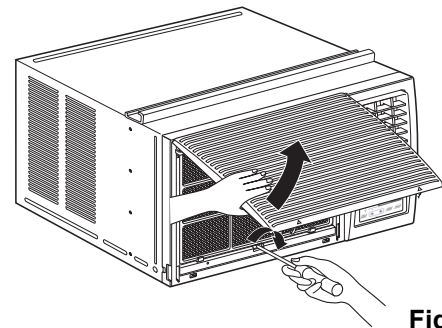

Fig. 11
14. Pull down the inlet grille and secure it with a Type A screw ① through the front grille. ( Fig. 11)